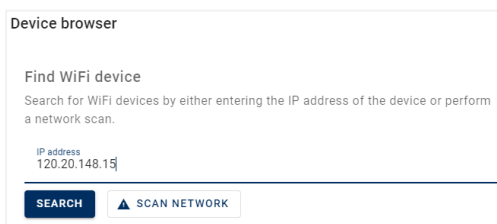

Figure 53
5. Enter the IP address and press **SEARCH** or search the tablet by pressing **SCAN NETWORK** (Figure 53).